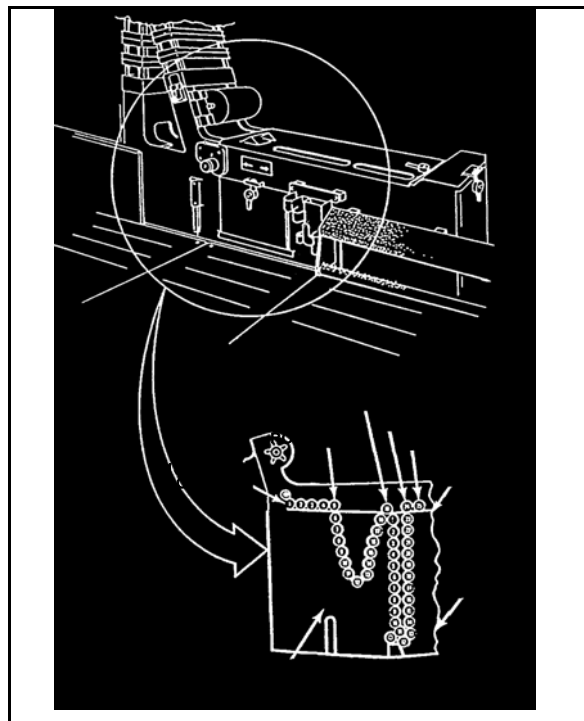

Figure 4. Round placement.
- d. Count the next 25 rounds. Hang both the 24th and the 25th rounds on the loading rail (Figure 4).